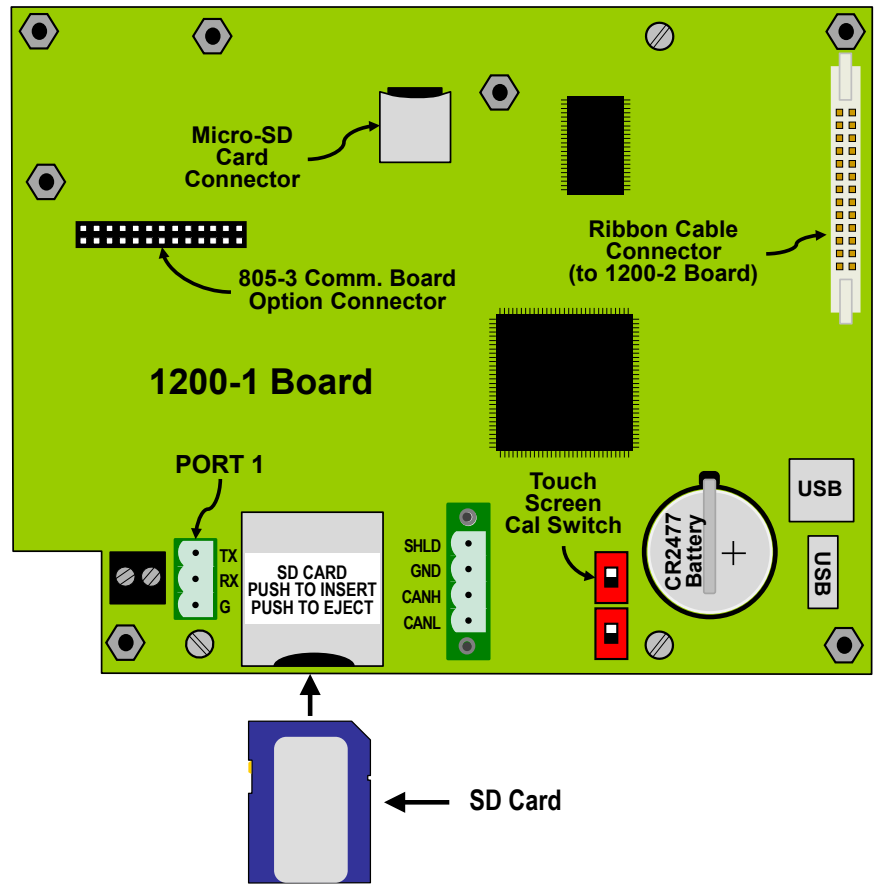

Figure 47: SD Card Location
A “secure digital” (SD) flash card is used to store the backup data. This type of flash card is commonly available from stores such as Radio Shack, Best Buy, Wal-Mart, Target, etc. Since a single backup will take up less than 64KB of space, even the smallest capacity SD cards will have more than enough space for backups. The location of the SD card slot is on the circuit board attached to door of the unit as shown in Figure 47.